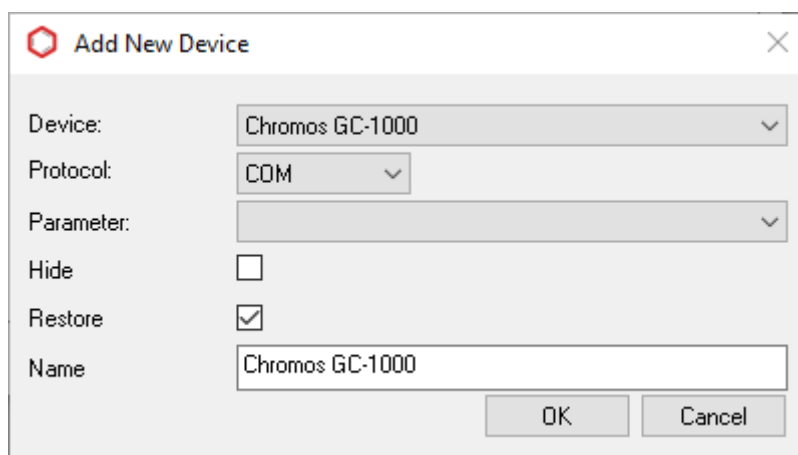

Fig. 105: Adding a Device
1. To add a device, click  **Add**. The *Add New Device* window opens (Fig. 105):